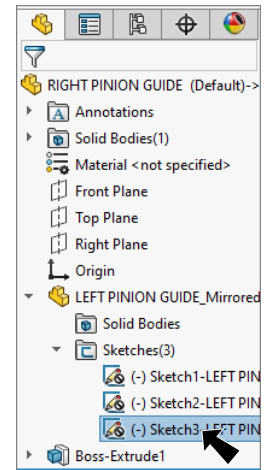

Fig. 7
Step 1. Select **Sketch3**. To select, expand **Left Pinion Guide** part in the Feature Manager, expand **Sketches folder** and click **Sketch3** to select the sketch, **Fig. 7**.